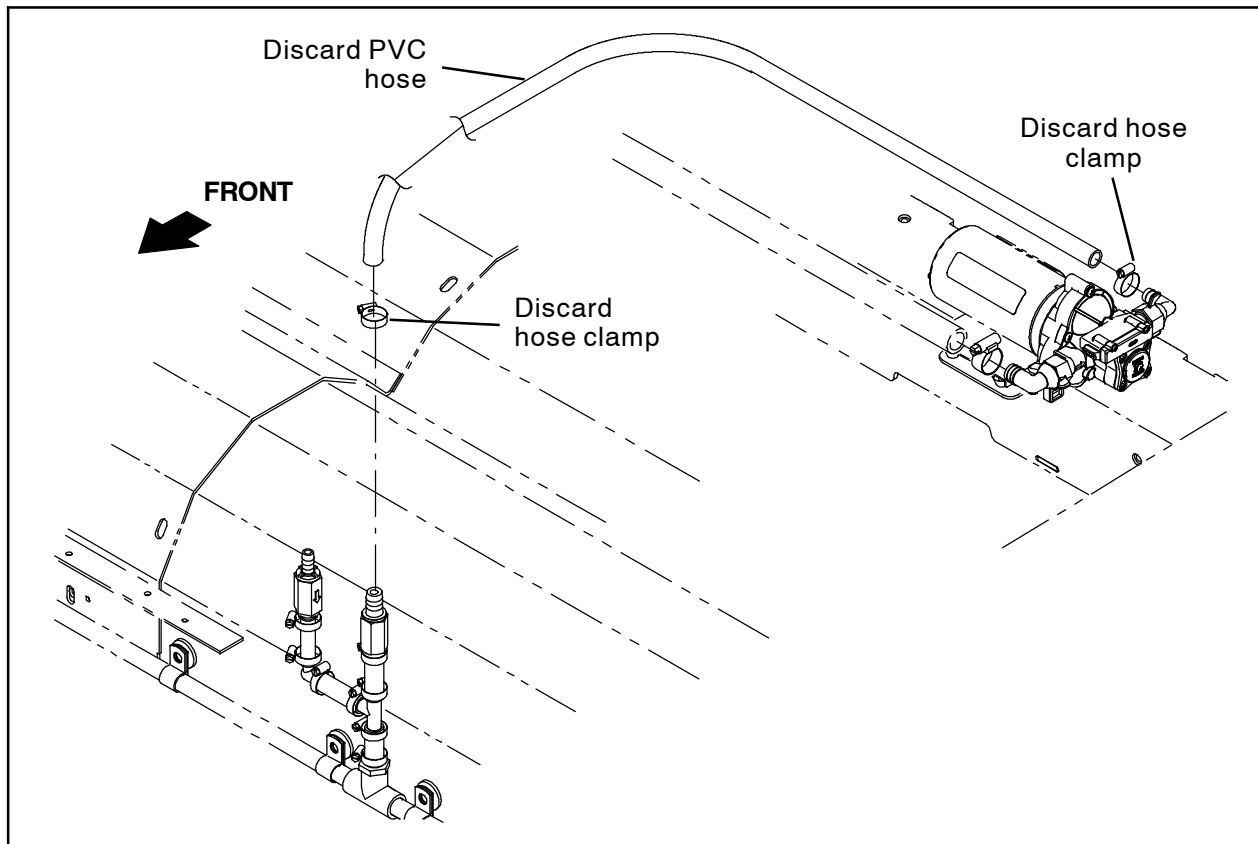

FIG. 7 - All Machines
21. Disconnect the PVC hose from the solution pump OUT port and the scrub head solution control group. Discard the removed PVC hose and hose clamp. (Fig. 7)